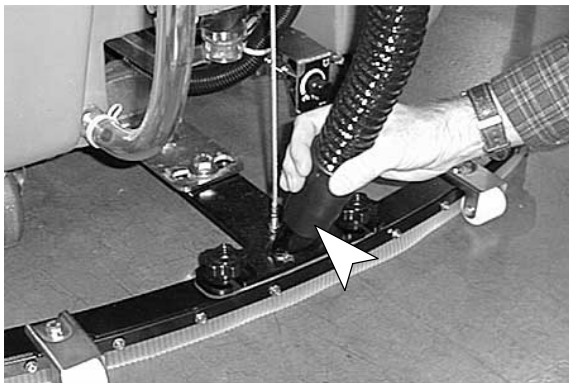

FIG. 5
- Connect vacuum hose from machine to squeegee assembly (*Figure 5*).